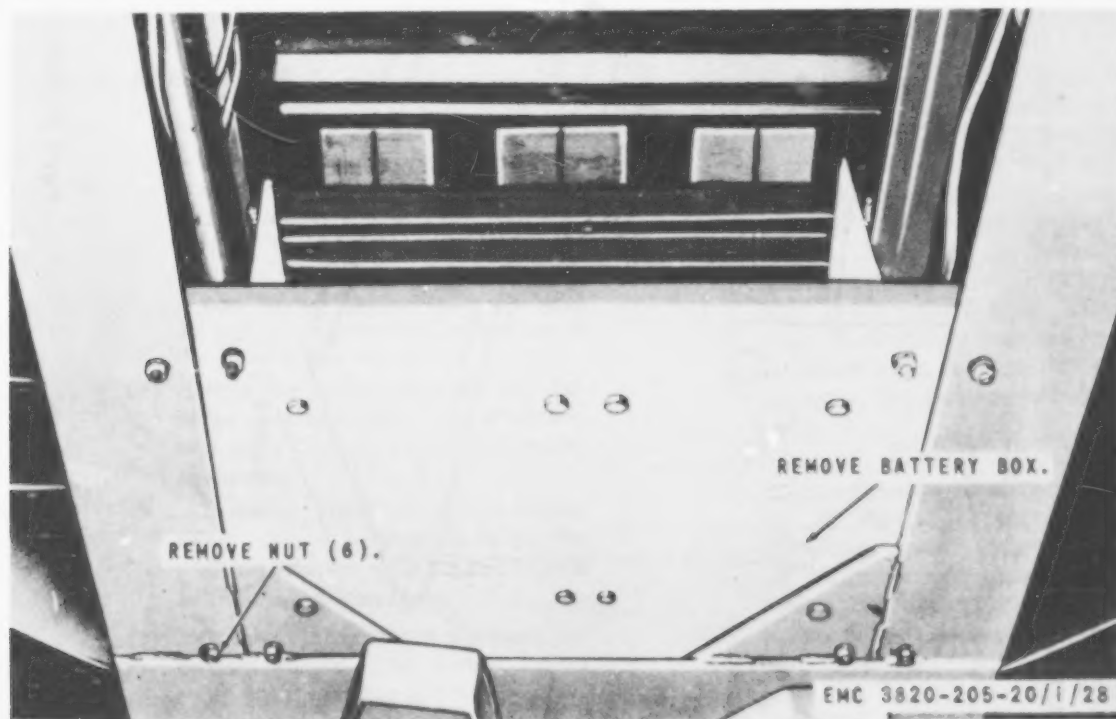
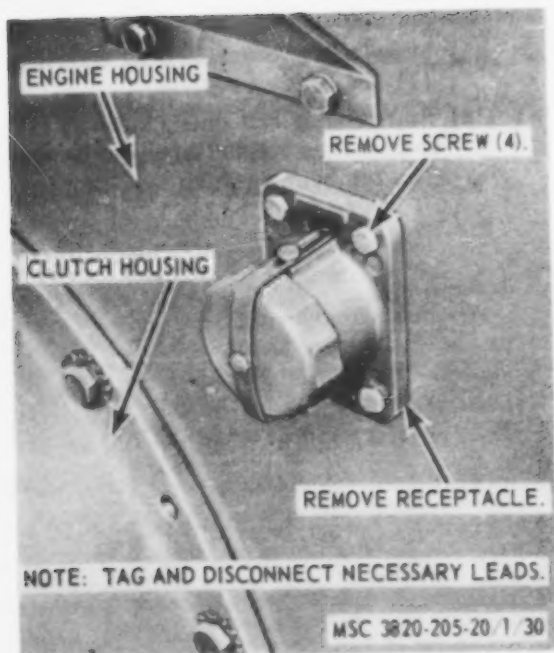

Figure 28. Battery box, removal and installation.
Figure 30. Battery charging receptacle, removal and installation.
- (1) Remove the batteries and cables (par. 76).
- (2) Remove the battery box from the unit as instructed on figure 28.
- (1) Install the battery box on the unit in reverse of the instructions on figure 28.
- (2) Install the batteries and cables (par. 76).
a. Removal. Remove the battery charging receptacle from the unit as instructed on figure 30.
c. Installation. Install the battery charging receptacle on the unit in reverse of the instructions on figure 30.